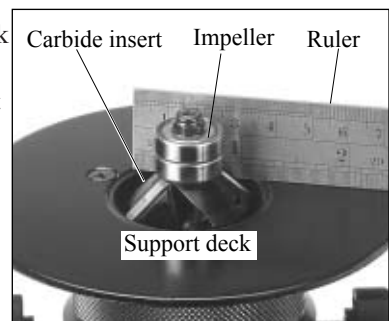

Fig.3
3. Once the zero point is found, loosen the small set screw and turn the dial ring to indicate zero on the scale. Then retighten the set screw. See fig.3